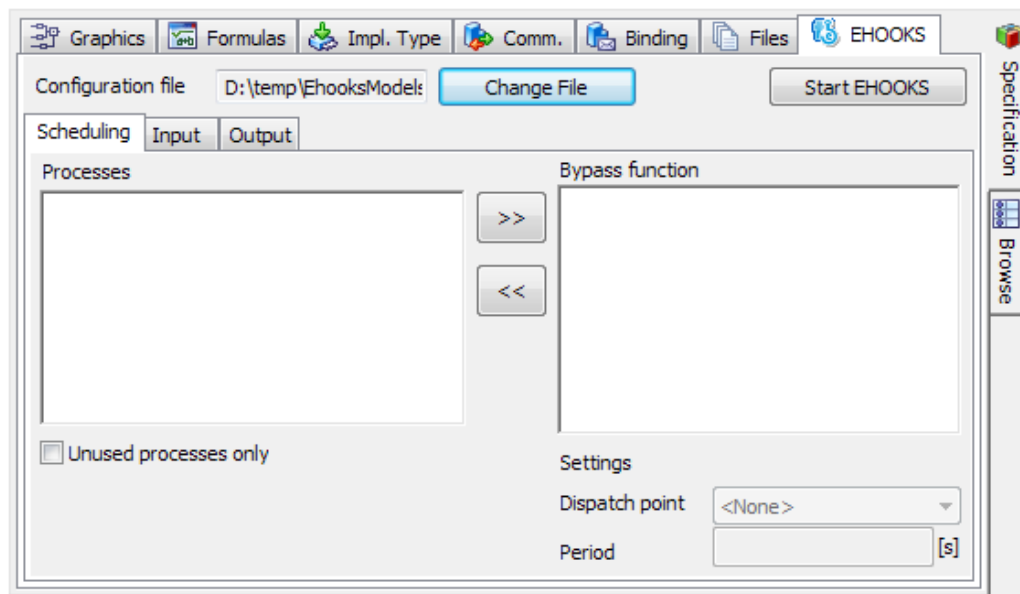

Figure 3.3: "EHOOKS" tab with EHOOKS configuration file
Path and name of the EHOOKS configuration file are shown in the "Configuration file" field at the top of the "EHOOKS" tab. The sub-tabs "Scheduling", "Input" and "Output" appear. See also Figure 3.3 on the next page.
1. In the "EHOOKS" tab, click on **Start EHOOKS** (see Figure 3.3 on page 20).